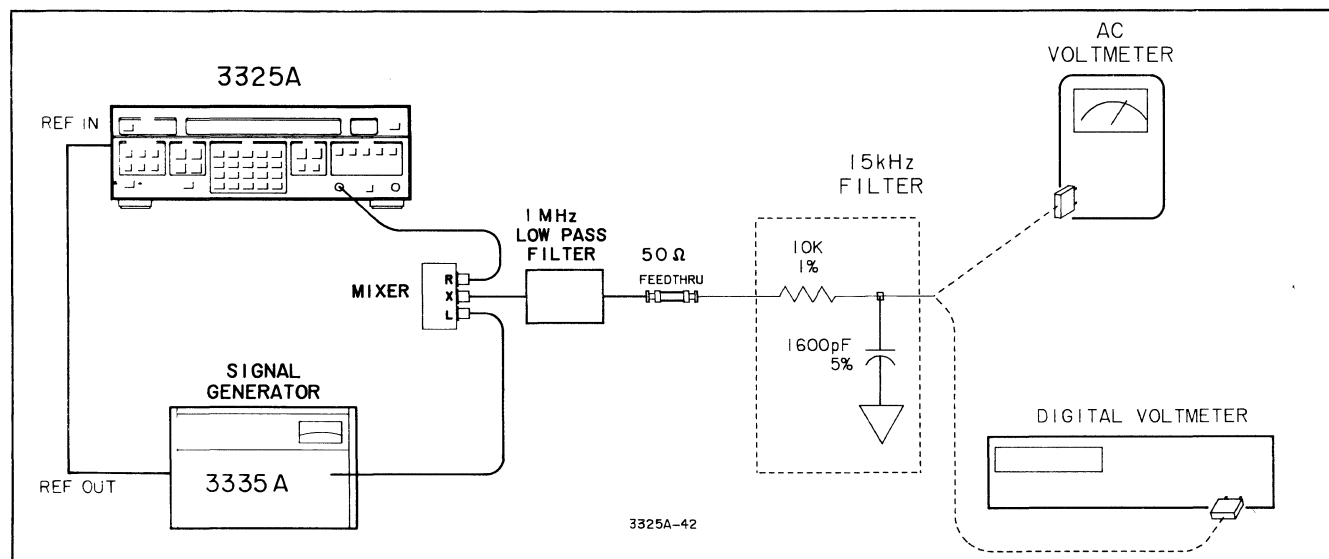

Figure 4-4. Integrated Phase Noise Test.
0160-2223) See Figure 4-4
a. Connect the equipment as shown in figure 4-4, connecting the 15 kHz noise equivalent filter output to the ac voltmeter. Phase lock the 3325A and the signal generator together.